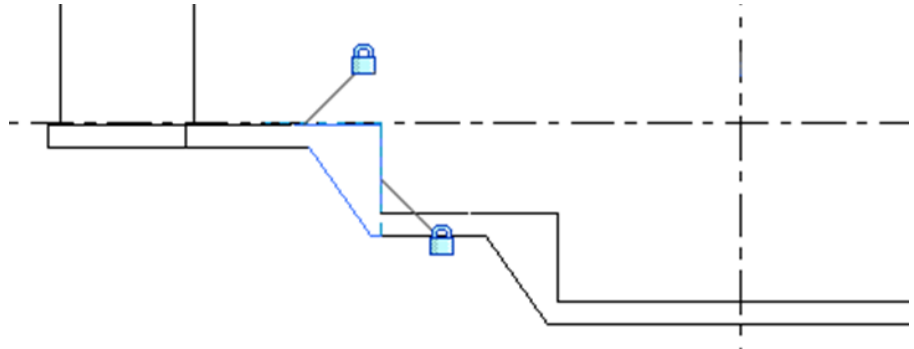

Figure 7–17
- Some custom families have sizing options in either Properties (per instance) or in the Type Properties as shown in Figure 7–18 so that you can create additional types in various sizes as needed in the project.